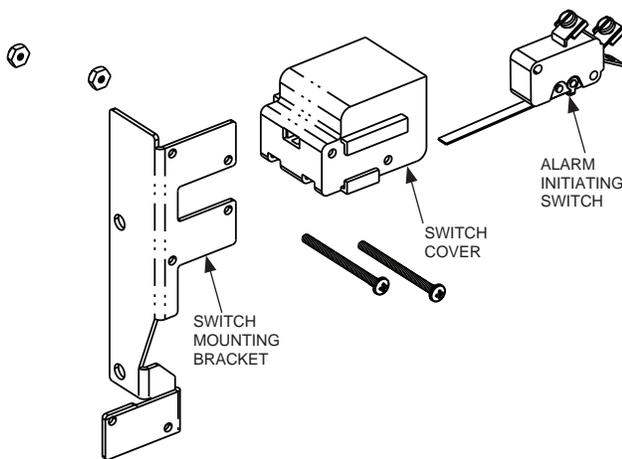

FIGURE 5-120
2. Install the alarm initiating switch into the switch cover for the upper tab of the switch mounting bracket. To install the alarm initiating switch in the switch cover, slide the switch into the large opening of the switch cover, oriented with the switch lever on the bottom side of the switch. See Figure 5-120.